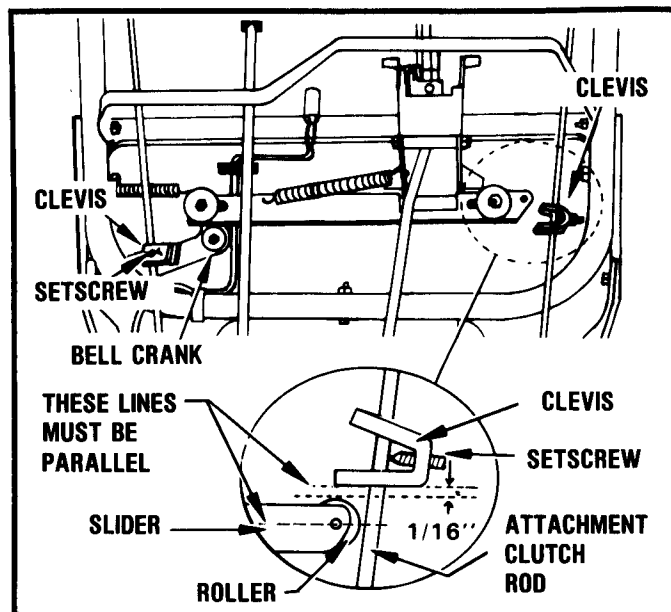

FIGURE 10
## CLUTCH HANDLE INTERLOCK — FIGURE 10
2. Release Traction Clutch Lever ("UP" position). Pull bell crank down until slider is at end of slot. See Figure 10. Secure clevis to traction clutch rod at this position with setscrew.
3. Engage both clutch levers ("DOWN" position). Adjust clevis on attachment clutch rod to where it clears roller in slider by  $1/16"$  and the "toe" of the clevis is parallel to the slider. Secure clevis with setscrew at this position. See Figure 10.